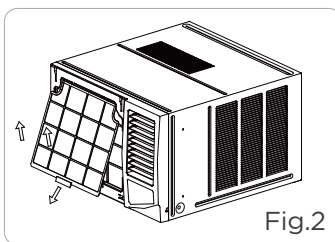

Fig.2
3. Grip the tab on the end of the filter, lift it up, then pull it towards yourself, pull the filter out(see Fig.2)